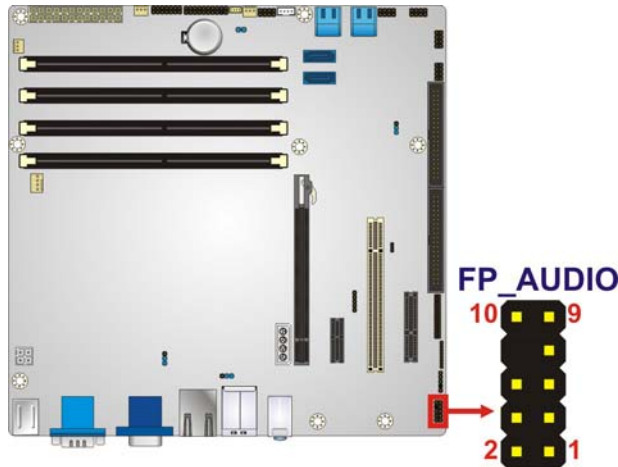

Figure 3-7: Front Panel Audio Connector Location
- CN Location:** See **Figure 3-7**